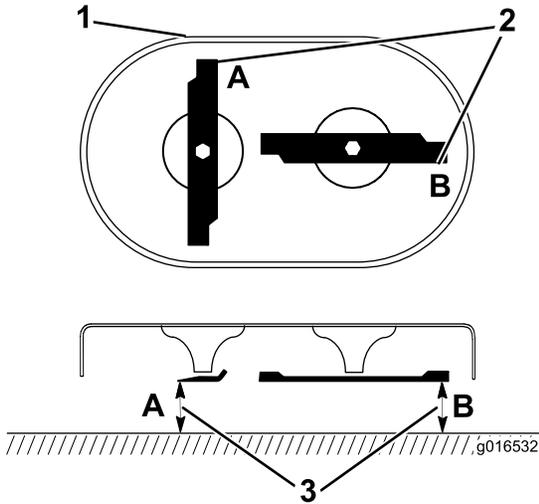

Figure 30
1. Rotate the blades until they are positioned as shown in Figure 30.